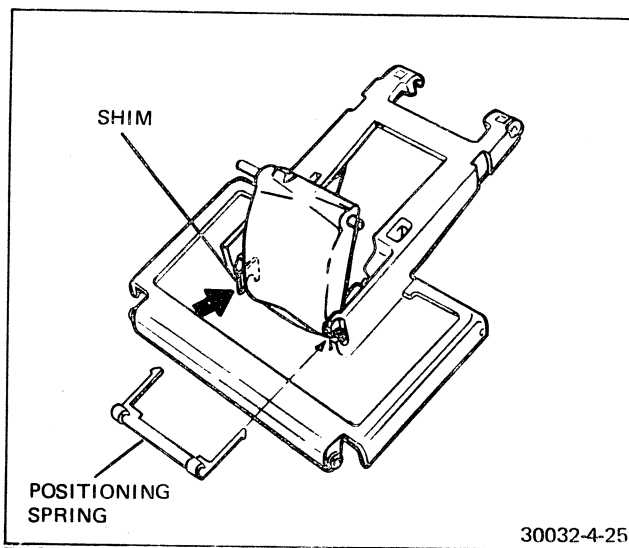

FIGURE 4-25 ORIENTATION OF SHIM AND POSITIONING SPRING
- f. If the spring is in good condition, install the spring on the replacement concave mirror housing. See Figure 4-25.
g. The mirror housing has two short studs on one side and two long studs on the other. Note that the flat side of the studs line up with the slots in the housing. Refer to Figure 4-25. Insert the lower short stud into its slot on the left side of the short cover.